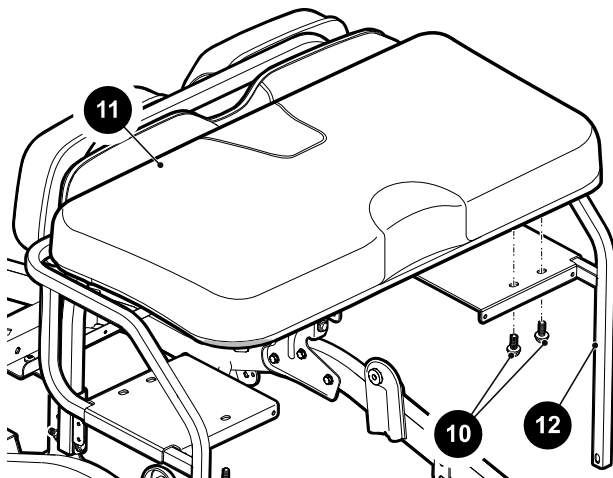
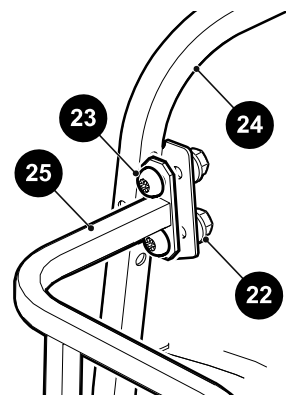

Figure 12 Rear Facing Seat Bottom
Figure 15 Upper Hip Restraint Bolts
1. Remove four hex head bolts (10) that secure the seat bottom (11) to the hip restraints (12) (Figure 12).
2. Lift the seat bottom (11) up and remove it from the vehicle.
3. Loosen the torx head bolts (23) and nuts (22) that secure the seat back mounting brackets and hip restraint to the seat back support (24) (Figure 15).
7. Remove the hex nuts (22) from the torx head bolts (23) that secure the hip restraint (25) to the seat back support (24).
8. Hold or support the hip restraint (25) before removing the torx head bolts (23), when these bolts are removed the hip restraint is free from the vehicle (Figure 15).